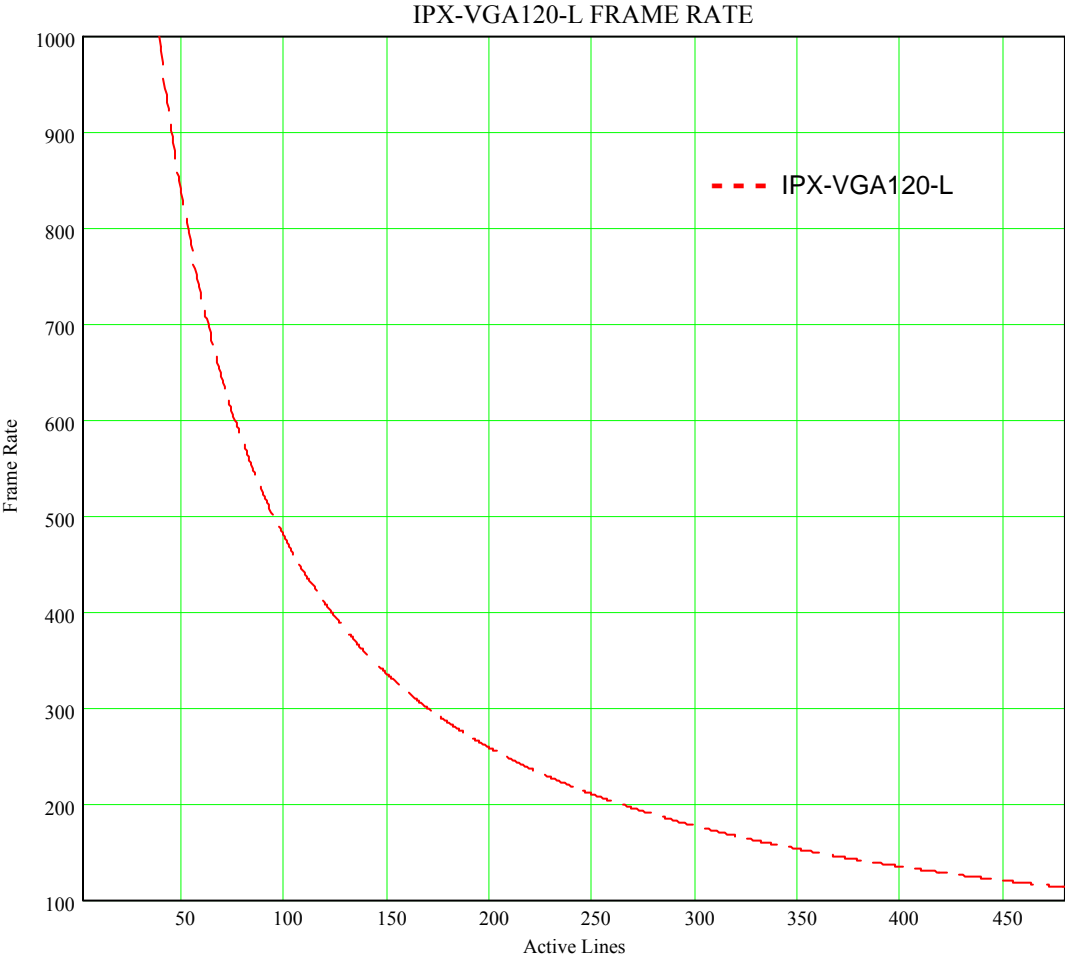

Figure 2.30 - Frame Rate vs. Vertical Window Size (IPX-VGA120-L)
The resulting frame rate (FR) for each camera can be approximately calculated using formulas 2.1a – 2.1f, where WS is the window size. The window size is the number of lines in the window (WS = 'End Line' – 'Start Line' + 1). Figure 2.30 – 2.36 show a graphical representation of the formulas.